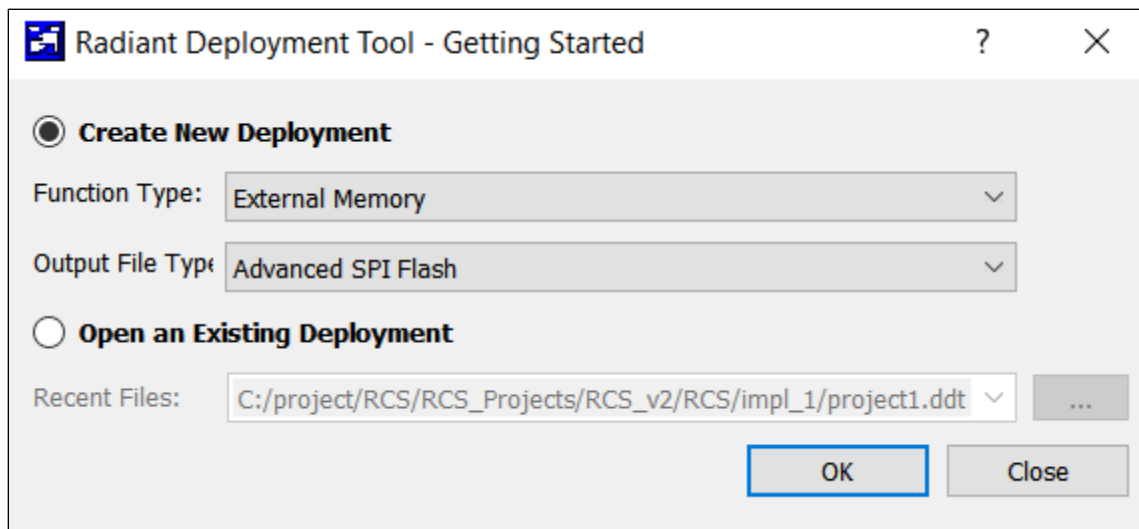

Figure 6.5. Radiant Deployment Tool – Getting Started
2. In the Radiant Deployment Tool window, select External Memory for **Function Type** and Advanced SPI Flash for **Output File Type**. Click **OK** (Figure 6.5).